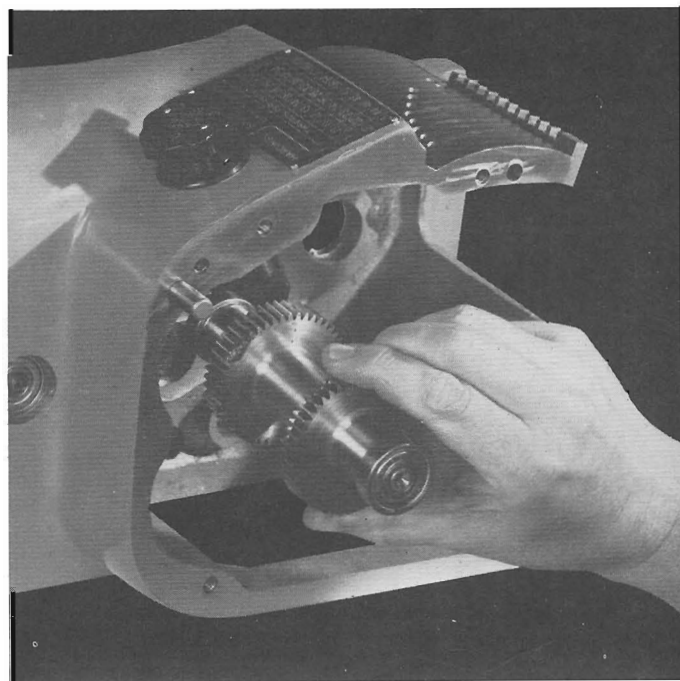

Figure 36 — Reverse Gear Removal
13. Remove reverse shaft, Figure 36. **USE CARE** to keep spacers in mounting side of gear box with gear shafts as removed.
3. Replace reverse shaft, Figure 36. Tap into place against spacers and snap ring.